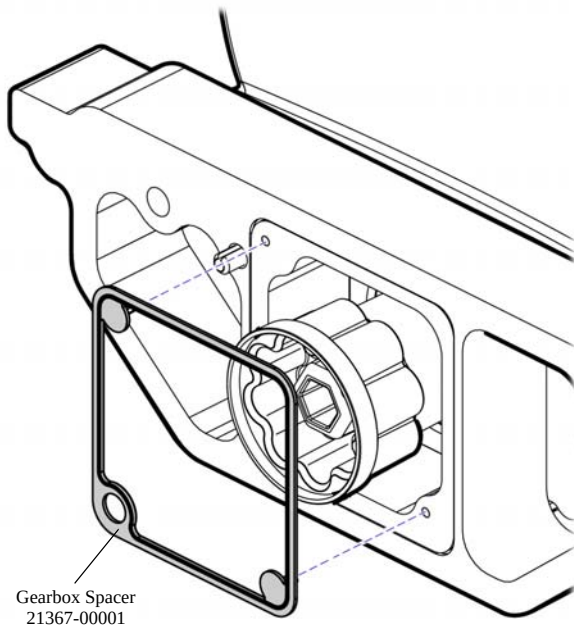

Figure 8-5: Align Gearbox Spacer Gasket
5. Ensure gasket is present (see "When to Replace" on page 8-3) and oriented properly in groove of gearbox spacer gasket. See Figure 8-5.